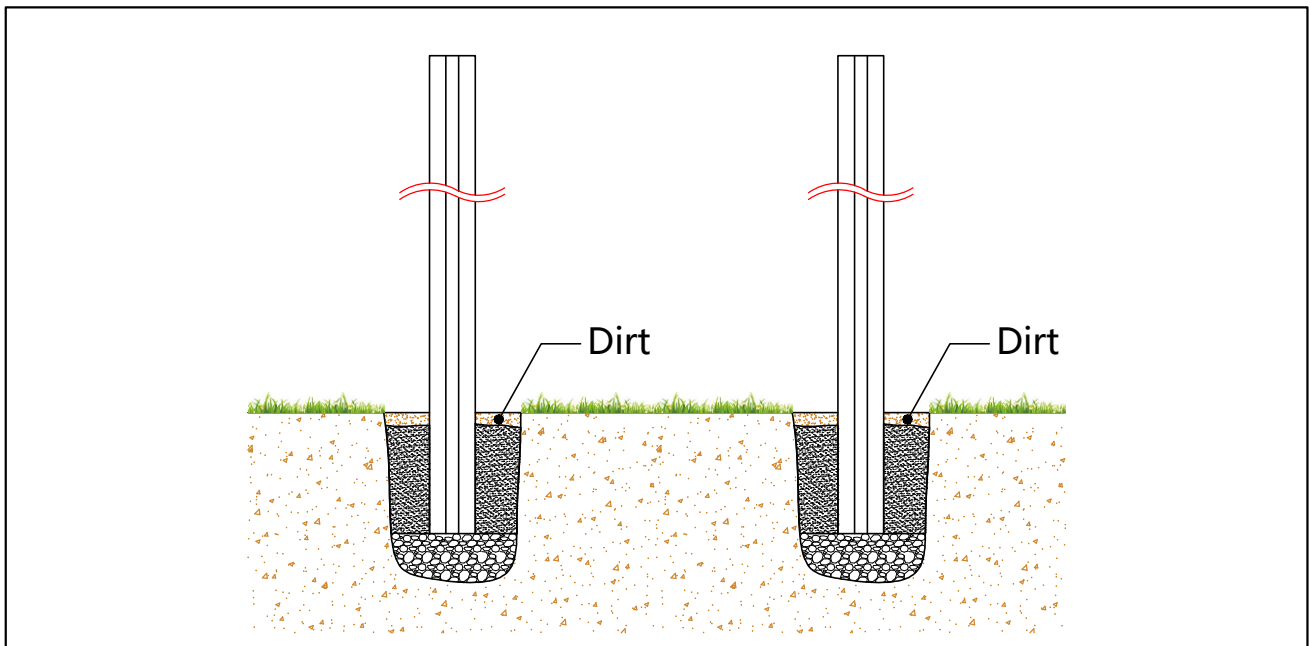

Figure 7
- 7 After the concrete has set and hardened, fill the top with dirt as shown in Figure 7.